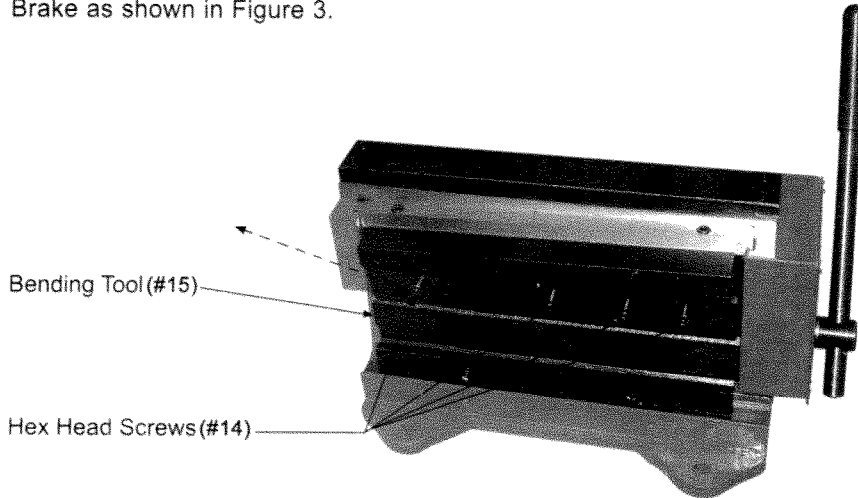

Figure3 - Bending Tool Removal
Step 2: Remove any unneeded BENDING TOOL fingers by sliding them out the left of the Shear/ Brake as shown in Figure 3.